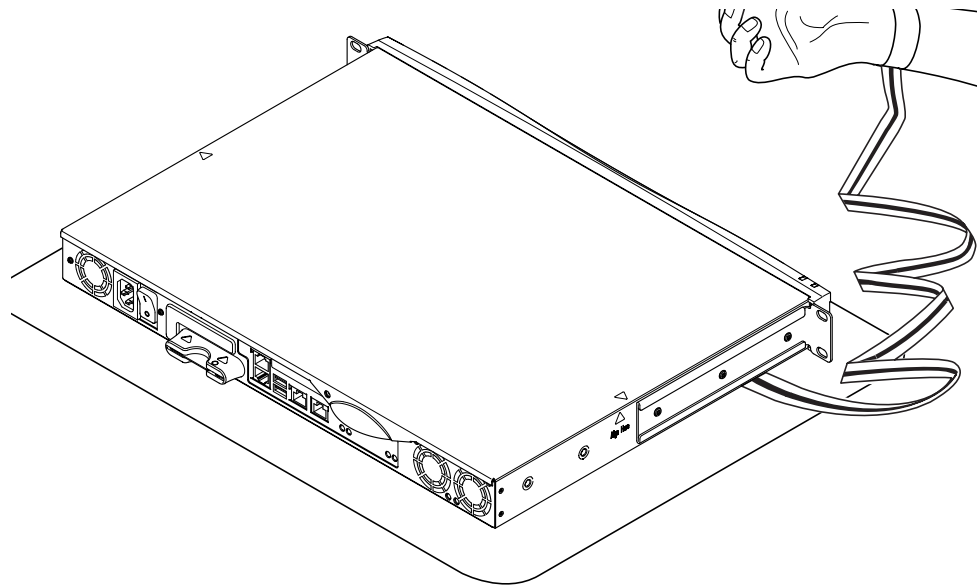

FIGURE 8-2 Using the Disposable Antistatic Wrist Strap Supplied With the System
Caution – The system contains electronic parts that are extremely sensitive to static electricity. Do not touch any metal parts. Place the system on top of an electrostatic discharge (ESD) pad (see FIGURE 8-2). Use the disposable antistatic wrist strap supplied with the system, and attach it to the metal base of the system before touching any of the internal components.
1. Place the unit on an ESD surface and attach an antistatic wrist strap (see FIGURE 8-2).
1. Place the unit on an ESD surface and attach an antistatic wrist strap (see FIGURE 8-2)
1. **Place the unit on an ESD surface and attach an antistatic wrist strap (see FIGURE 8-2).**